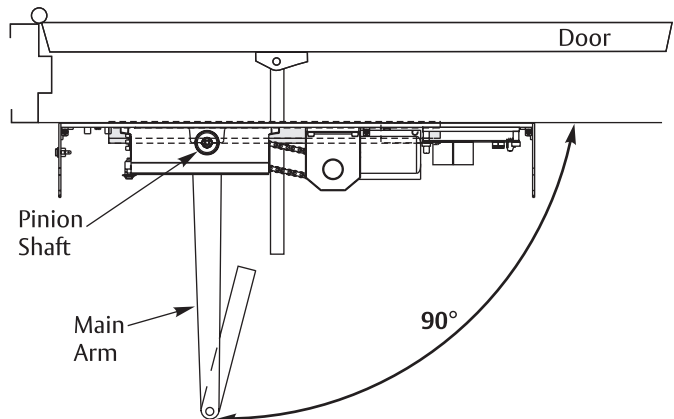

Figure 19 View from ceiling looking downward
1. Insert main arm onto pinion shaft of unit at 90° angle to frame. (Figure 19)